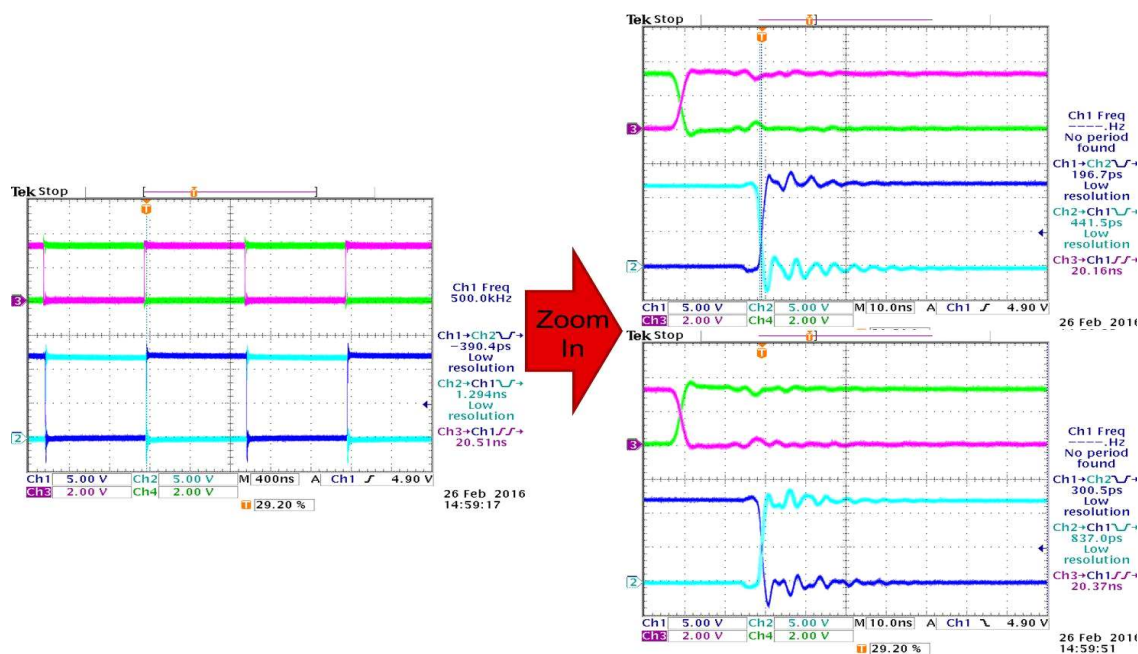

Figure 3. Example Input and Output Waveforms (Green/Magenta are PWM Inputs, Blue/Cyan are Driver Outputs)
- (a) Stable pulse output on the channel-A and channel-B in the oscilloscope, refer to Figure 3;